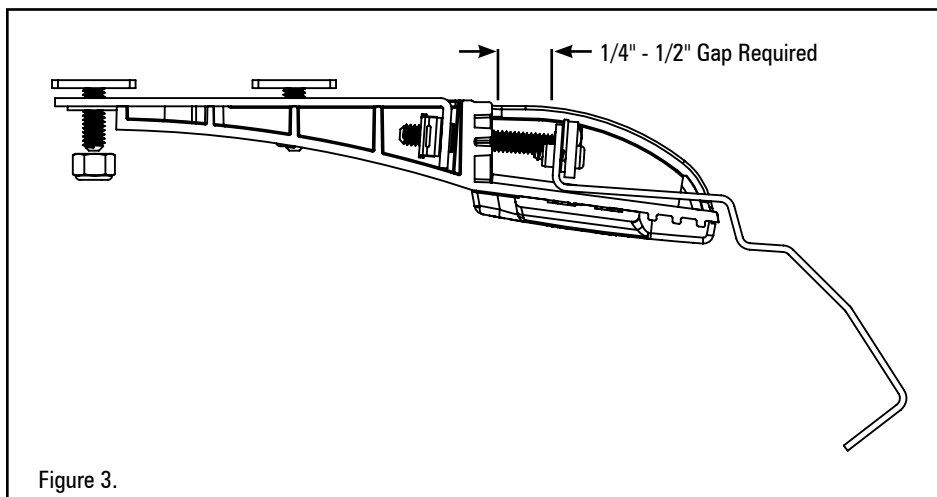

Figure 3.
1. Attach the supplied screws to the mounting foot to secure the rubber pad as shown in Figure 3 (on next page.)